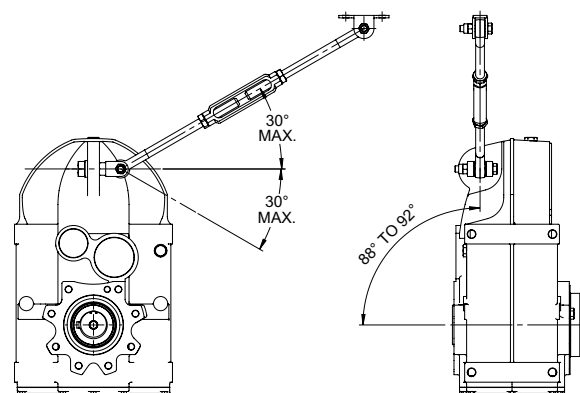

Figure 8
4. Note: Install rod clevis on gear drive housing so that head (not nut) of rod clevis fastener is adjacent to gear drive housing and that angular motion of torque arm is consistent with Figure 8.
- Identify a torque arm anchor location such that torque arm angle will be within the limits illustrated in Figure 8 and the supporting structure will be capable of withstanding the torque arm reactions specified in Table 6. Secure anchor to foundation using SAE grade 5 fasteners torqued to value specified in Table 5.
- Adjust length of torque arm by rotating turnbuckle until proper orientation of gear drive with angle of torque arm is consistent with limits illustrated in Figure 8. Tighten jam nuts against turnbuckle and torque to value specified in Table 5.